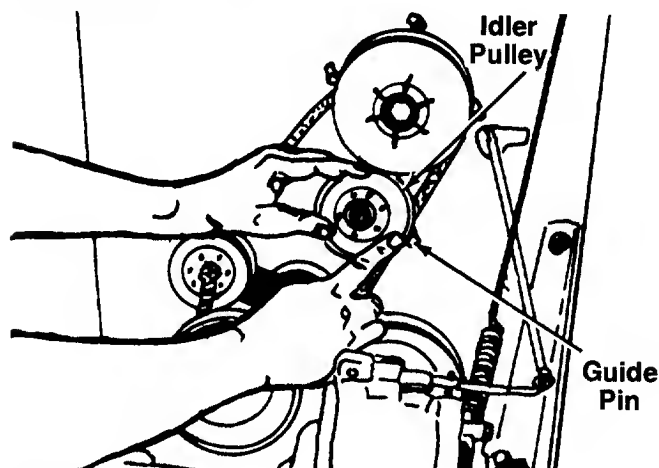

FIGURE 35.
11. When sliding the idler pulley on the idler bracket, be certain the belt is between the pulley and guide pin. See figure 35.